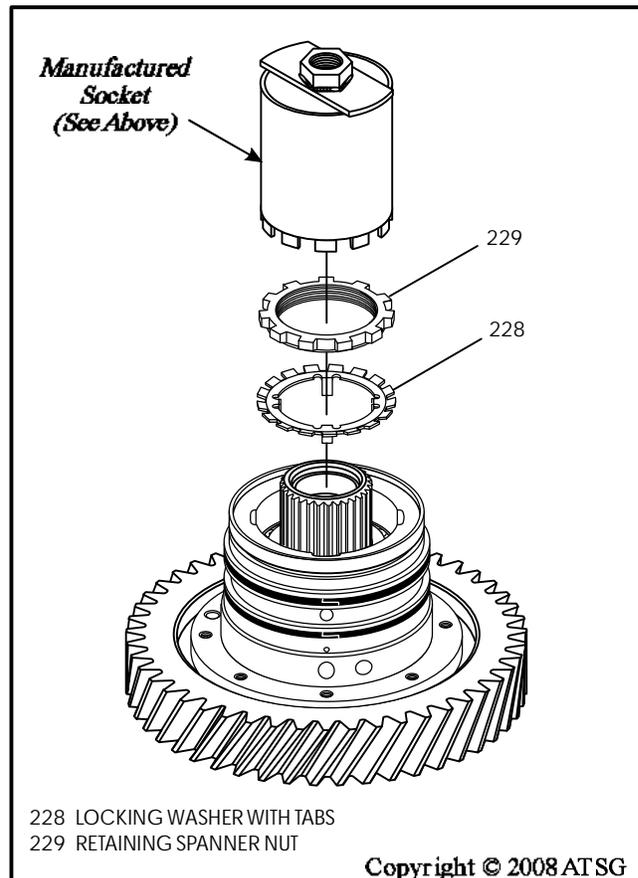

Figure 74
22. Install the locking washer with tabs and the spanner nut, as shown in Figure 74.
Note: The socket needed to torque spanner nut, shown in Figure 74, must be made as described under "Special Tool Requirement".
In order to tighten the "Spanner" nut to the proper torque specification on Transfer Gear "A" assembly, it was necessary to make a socket. First bend down the locking tab on the locking washer for the nut and loosen the nut using a punch. Purchase a short piece of 1-3/4" exhaust pipe and using the nut as a template, mark the end of the pipe. Very carefully cut and notch the pipe to match the nut, as shown in Figure 74. Weld a short piece of metal to the opposite end of the pipe, with a large nut welded to it, as shown in Figure 74. The overall length of the new socket with nut is approximately 4-1/2 inches.